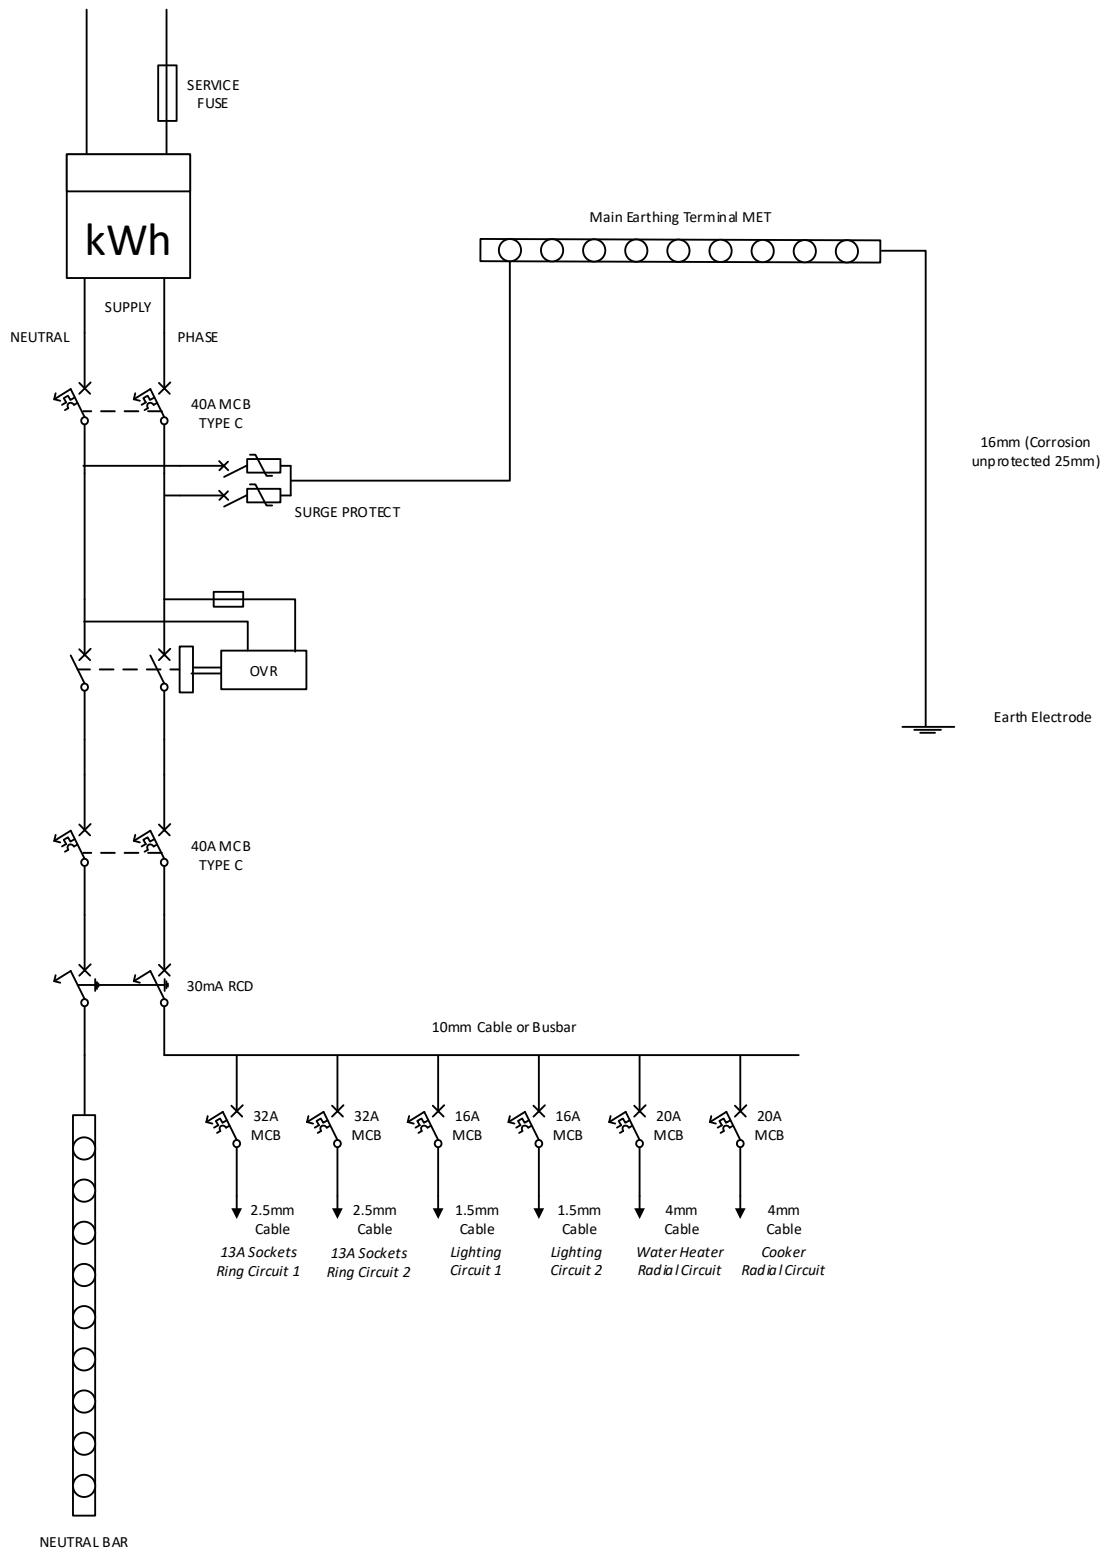

Figure 4: Line Diagram of a Typical Domestic Distribution Board
Figure 4 shows a line representation of the wiring diagram of a typical domestic distribution board (DB). Electrical supply is provided by the service provider through a service fuse and the electricity meter. This is followed by the main circuit breaker, surge protection, over/under voltage protection, and the residual current device (RCD). From there supply is provided to the various circuits for power and lighting, through miniature circuit breakers (MCBs). The wiring between the main circuit breaker, surge protection, over/under voltage protection, RCD, and MCBs should be at least 10mm². In cases the individual MCBs are linked together using an appropriate bus bar which supplies the live to each MCB. Each circuit should be protected by an MCB, connected on the live wire. The MCBs should be sized according to the wire within each circuit. For protection, the wire should be sized to withstand higher current than the size of the MCB. If current higher than the MCB rating flows through the MCB, the MCB trips protecting the circuit wires, preventing a potential fire, caused be heating up of the wires.
As can be observed from figure 4, the neutral wire after the RCD is connected to the neutral bar. The neutral wire for each individual circuit will be connected to this bar. Another bar in the DB is the earth bar, called the main earthing terminal (MET), connecting all earth wires from the individual circuits with the earth electrode. The earth wire between the MET and the electrode should be sized as 16mm² when the wire is protected against corrosion and 25mm² if not protected.